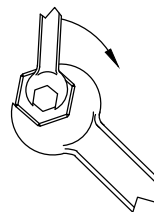
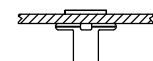

Figure 13: Plusnut tightening.
Figure 14: Fully upset Plusnut.
- 10. Tighten** the hex bolt while holding the 1/4" nut (Figure 13). Fully upset Plusnut provides mounting nut to attach the top angle bracket (Figure 14).